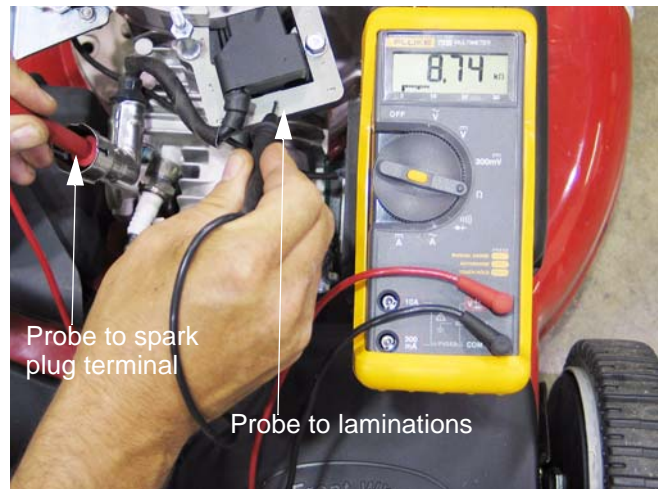

Figure 7.12
- 4g. Resistance in the secondary windings of the ignition module, measured between the spark plug terminal and the laminations, was observed to be in the 8K-9K $\Omega$  range. See Figure 7.12.